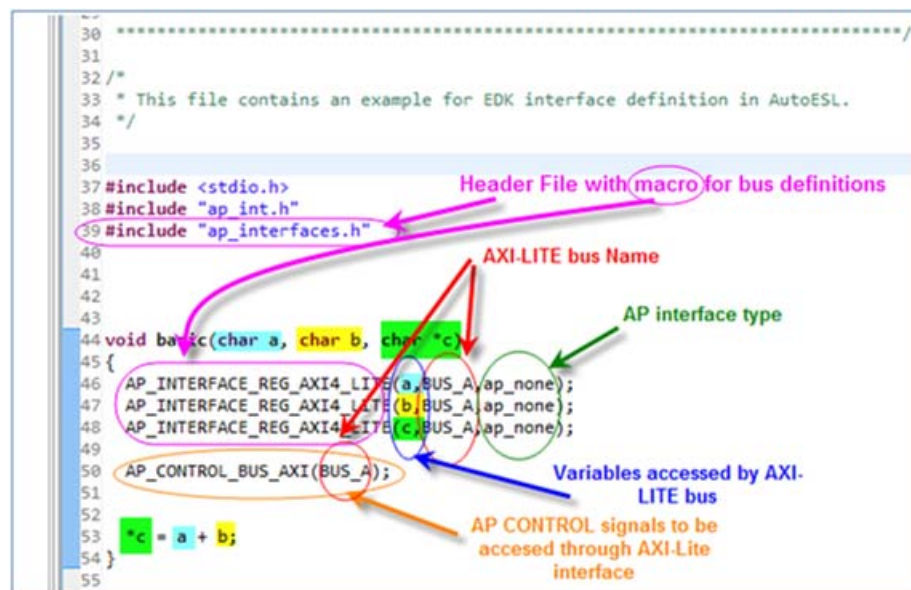

Figure 1-3: C Code
2. Open the AutoESL project basic.prj. Details on using AutoESL can be found in the AutoESL tutorial shown in Figure 1-3.